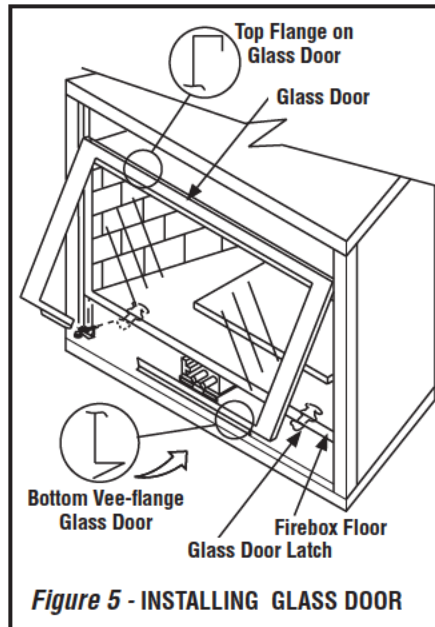

Figure 5 - INSTALLING GLASS DOOR
Removing Glass Enclosure Panels (see Figure 5)
Installing Glass Enclosure Panels (see Figure 5)
2. Position the glass enclosure panel in front of the firebox opening at a 45 degree angle and engage the top flange over the lip at the top of the firebox opening. **See Figure 5.**